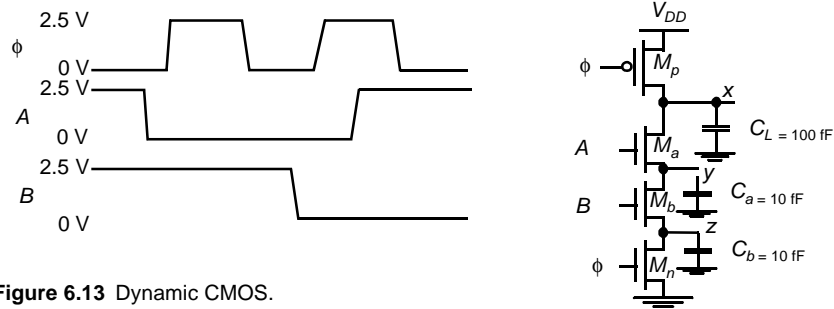

Figure 6.13 Dynamic CMOS.
- [M, None, 4.3] Sketch the waveforms at x, y, and z for the given inputs (Figure 6.13). You may approximate the time scale, but be sure to compute the voltage levels. Assume that $V_T = 0.5\text{V}$ when body effect is a factor.